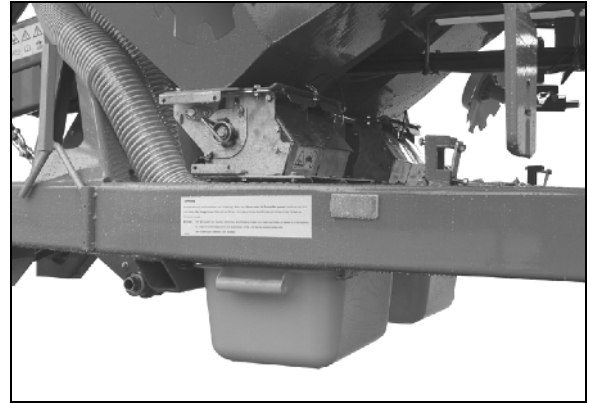

Fig. 70
3. Slide the seed collection tray (Fig. 70) into the bracket and place one seed collecting tray underneath every individual metering unit.